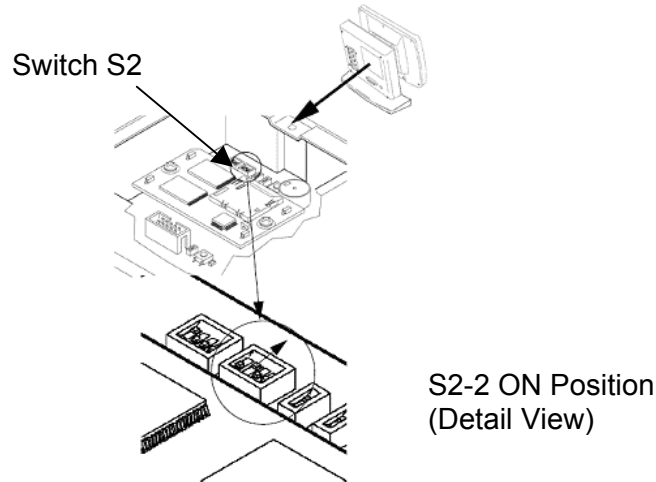

Figure 16-1
12. To make the FROM Card work properly, switch 2-2 must be in the ON position. Refer to Figure 16-1 for switch location and identification.